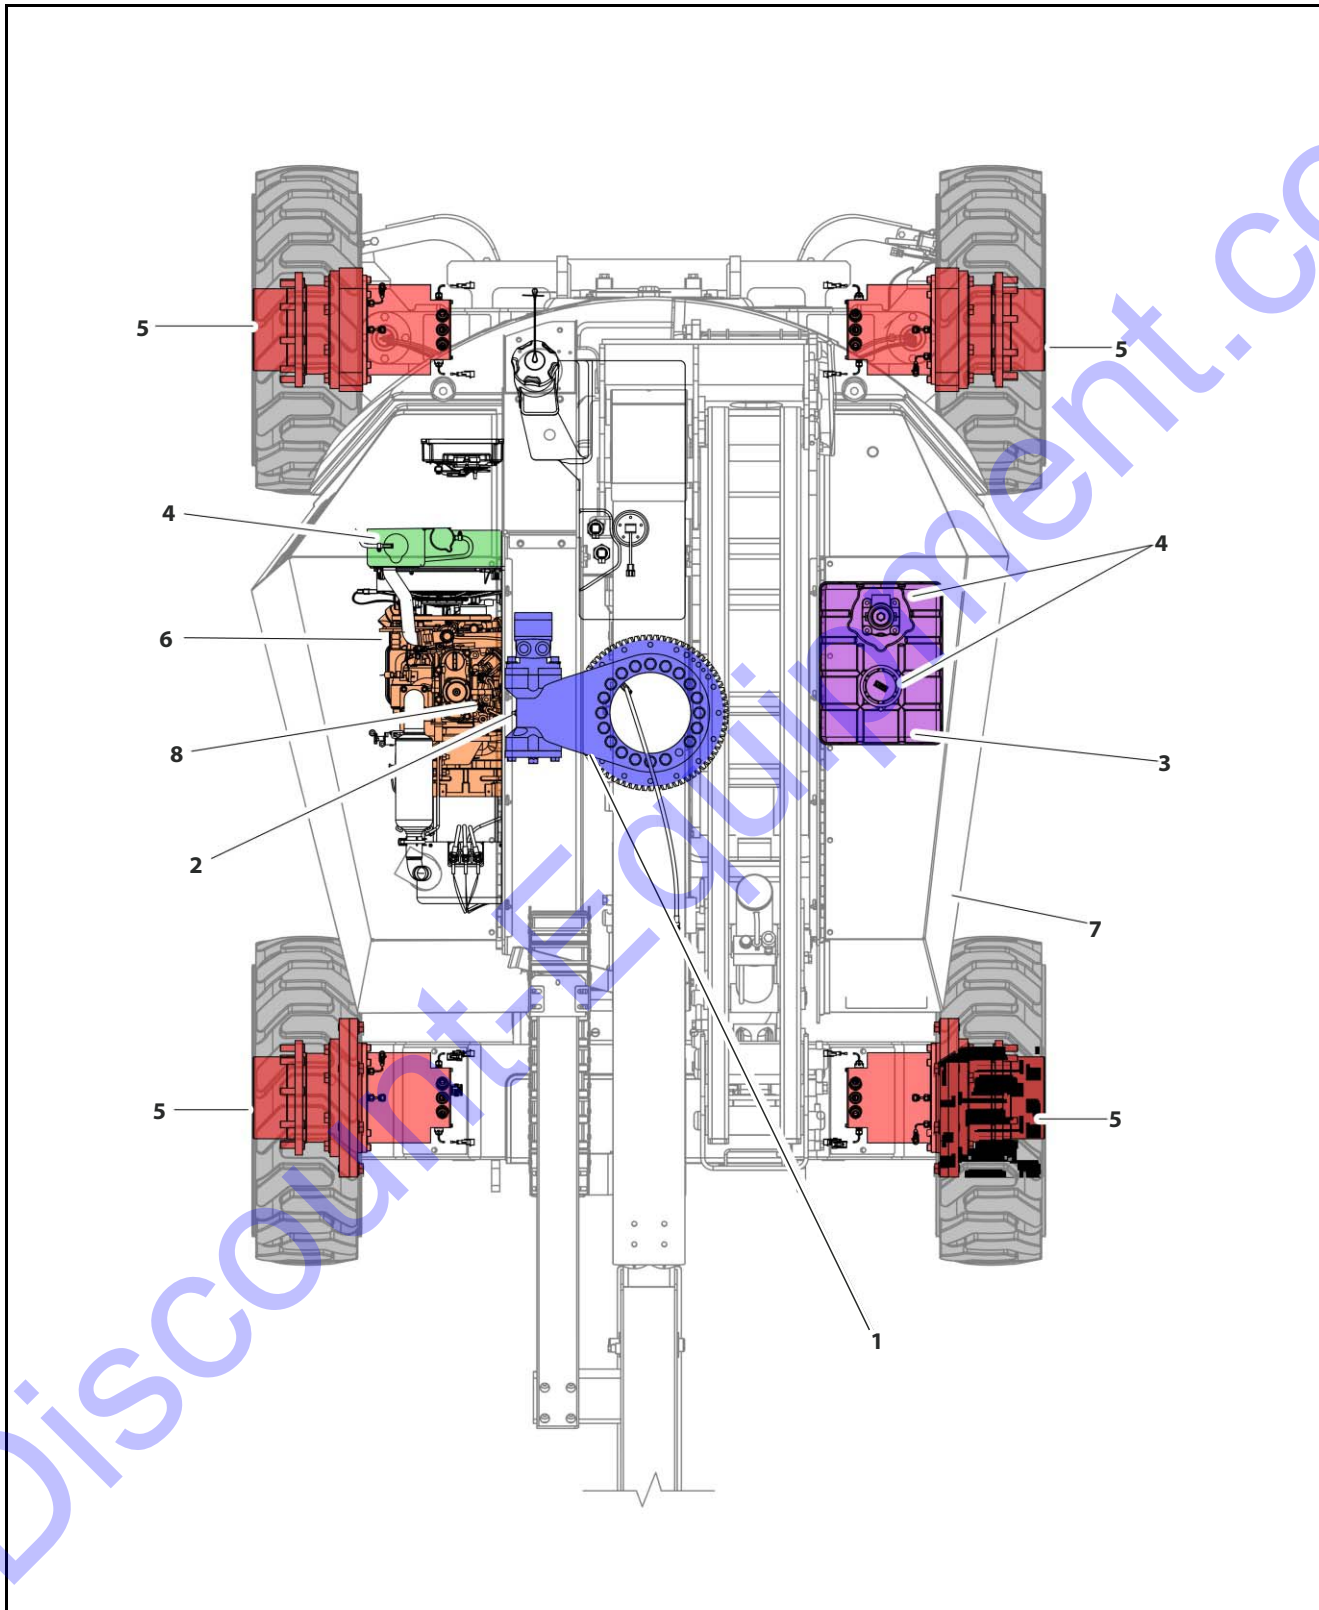

Figure 1-2. Maintenance and Lubrication Diagram
**NOTE:** The following numbers correspond to those in Figure 1-2., Maintenance and Lubrication Diagram.